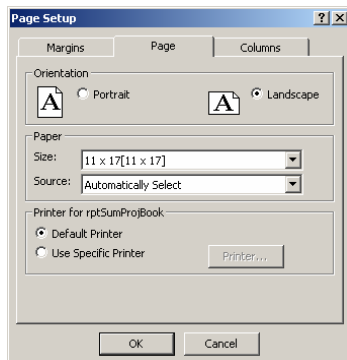

Figure 13 – Pipe/W-Shape Project Book Page Setup
3. Select the **Page** tab and set the page settings as shown in Figure 13. The 11 x 17 paper size option may not be available on your printer (it may be called Tabloid or something else.) Choose the paper size that represents an 11 x 17 paper size.